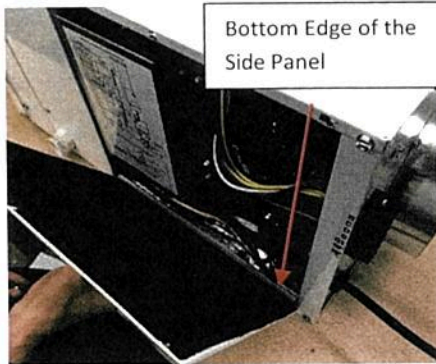
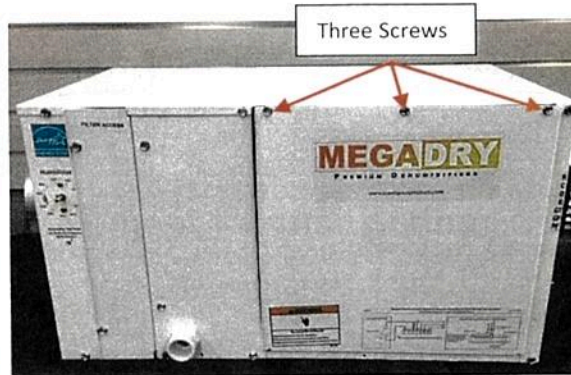

Figure 16a
Figure 16b
Step 17 – Replace the side panel by first seating the bottom edge of the side panel on top of the bottom edge and insulation strip of the unit (Figure 16a). Secure the side panel by the three screws (Figure 16b) (There will be extra components left over after completion of installation).